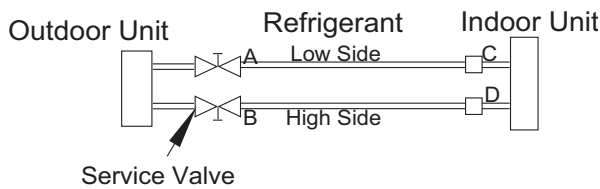

Fig. 15 – Service Valve
- 1 Completely tighten flare nuts A, B, C, D, connect manifold gage charge hose to a charge port of the low side service valve (see Fig. 15).